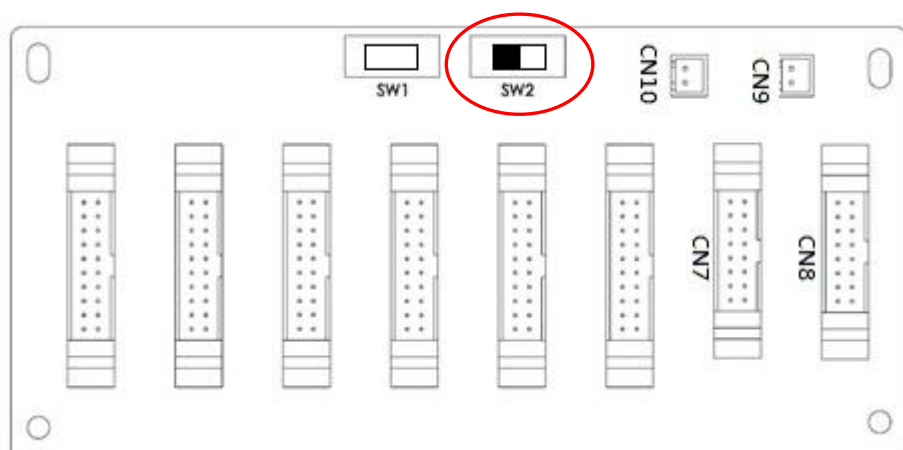

Figure 9-3: At Rack 2 switch SW2 to the left side
1. For the parallel board(s) of the Rack 2, the SW2 must be to switch to the left side, please refer to Figure 9-3 below.